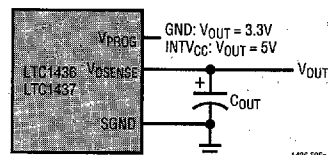
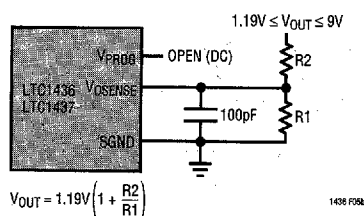

Figure 5a. LTC1436/LTC1437 Fixed Output Applications
Figure 5b. LTC1436/LTC1437 Adjustable Applications
The LTC1436/LTC1437 family also has remote output voltage sense capability. The top of an internal resistive divider is connected to V_{SENSE} . For fixed 3.3V and 5V output voltage applications the V_{SENSE} pin is connected to the output voltage as shown in Figure 5a. When using an external resistor divider, the V_{PROG} pin is left open (DC) and the V_{SENSE} pin is connected to the feedback resistors as shown in Figure 5b.